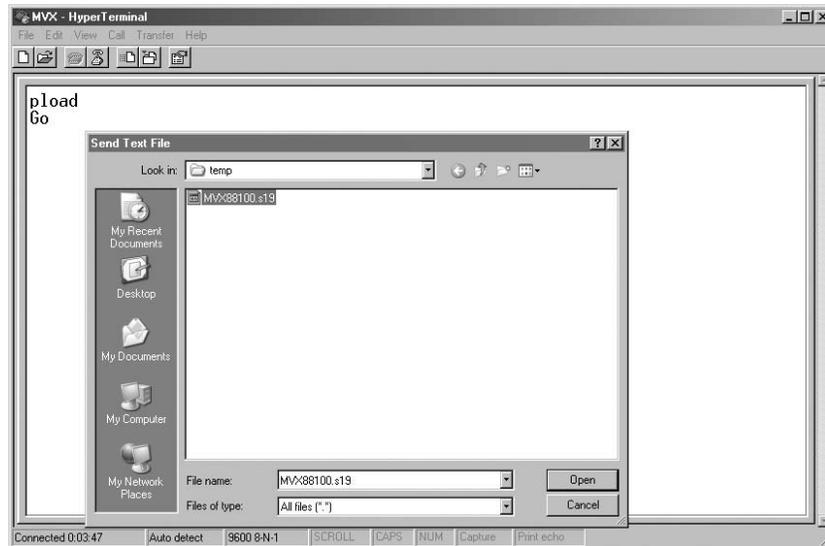

Figure 4-4— Select the firmware upgrade file
- Navigate to the folder where you saved the firmware upgrade file. Select the file (figure 4-4).